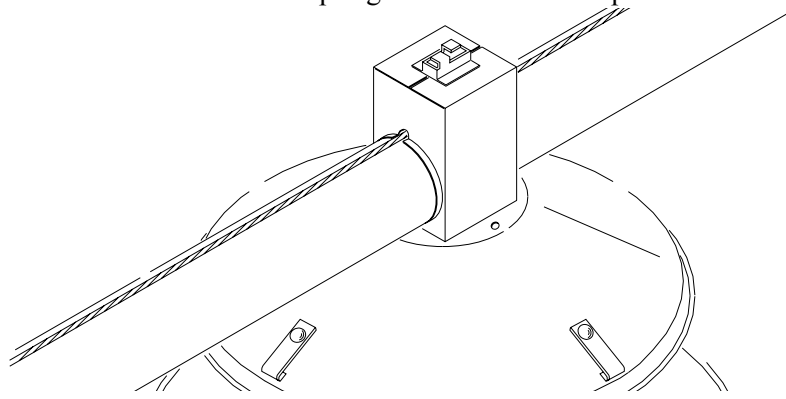

Figure 40. Winch Cable Routing
- Thread the cable through every Drop Tube to support the cable and keep it in position, see figure 40.